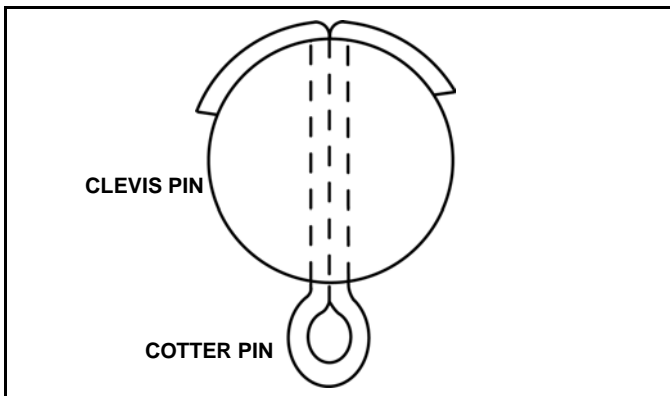

Figure 1-5
*NOTE: Make sure cotter pin is properly bent or pin may work loose (See Figure 1-5).*